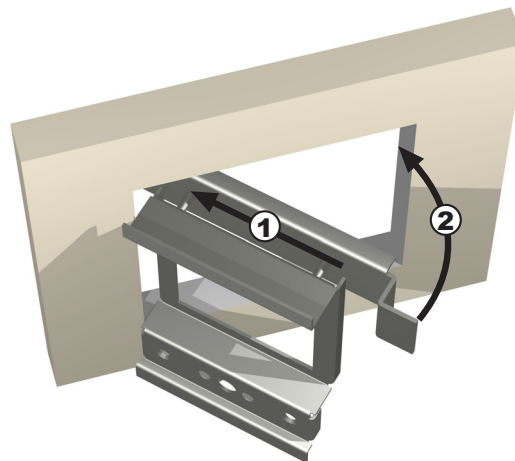

Figure 8 – Installing the MRC88 Keypad mounting bracket in the wall
- e. Slide the left or right side of the back-bar into the wall as shown in **Figure 8**.